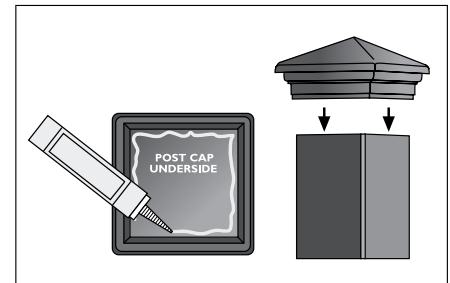

Figure 1
To attach each post cap style to the post, apply an exterior-grade construction adhesive to the underside of the post cap and place firmly on the post (Figure 1).
- 4 Your solar post cap light is now ready to be attached to your post (Figure 1).
- 4 Your Solar Tiffany-style post cap is now ready to be attached to your post (Figure 1).